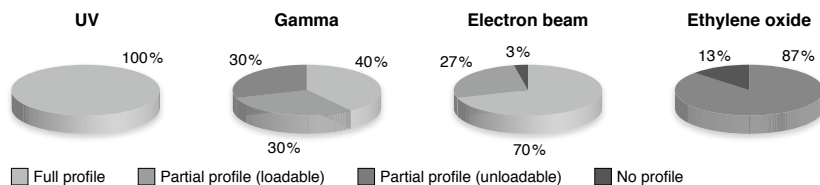

Figure 1 According to Shaw et al., 2008, Comparison of the effects of sterilization techniques on subsequent DNA profiling. *Int J Legal Med* 122: 29-33.
NucleoSpin® Tissue is certified as forensic quality product. Consumables used in forensics need to be treated carefully to prevent DNA contamination. MACHEREY-NAGEL therefore has a stringently controlled production process to avoid DNA contamination of consumables. Further, MACHEREY-NAGEL uses ethylene oxide (EO) treatment to remove amplifiable DNA, which might still be introduced during the manufacturing process. MACHEREY-NAGEL products carrying the forensic quality seal, contain plastic materials that are EO treated. This means, DNA of any kind, which might still be introduced into plastic consumables during the production process, is inactivated by means of the treatment with ethylene oxide, in order to prevent the generation of accidental human profile by PCR amplification. Ethylene oxide treatment has been shown to be the method of choice to prevent DNA profiles due to DNA contamination (Shaw et al. 2008; Figure 1).